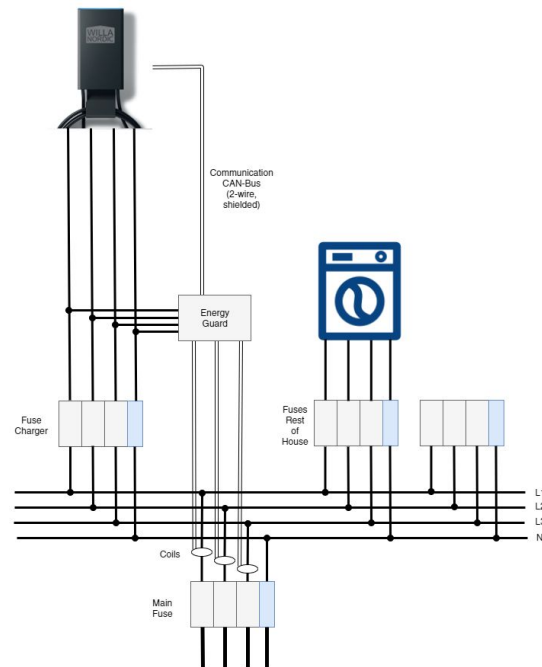
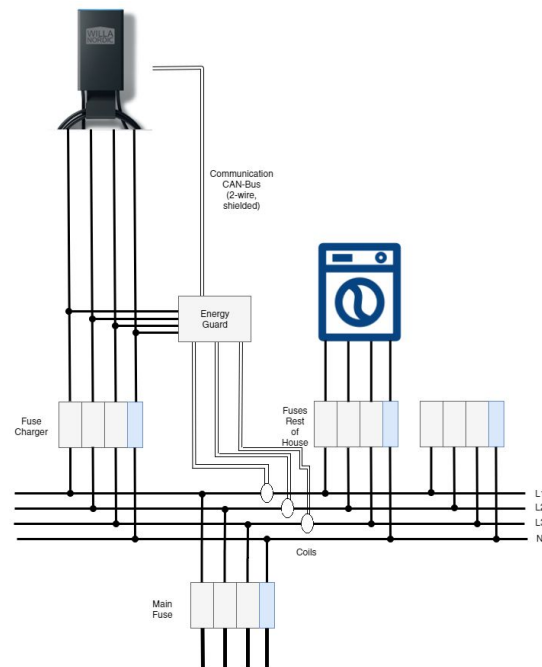

Fig. 4: Measurement of the entire connection with the charging terminals.
Fig. 5: Measurement of the load excluding charging terminals.
It is possible to choose the place of installation of measuring coils. They can be installed on lines feeding the building load [Fig.4] or together with the charging stations lines feeding the building load only [Fig.5].
1. The measurement of the whole power network together with charger stations [Fig.4].
2. The measurement of the whole power network without charger stations [Fig.5].